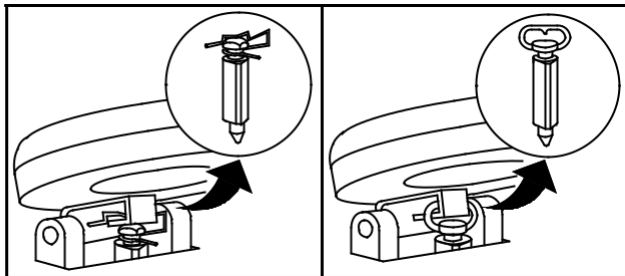

Fig. 264 - INLET NEEDLE VALVE VARIATIONS
1. Install inlet needle to float as shown, Fig. 264.